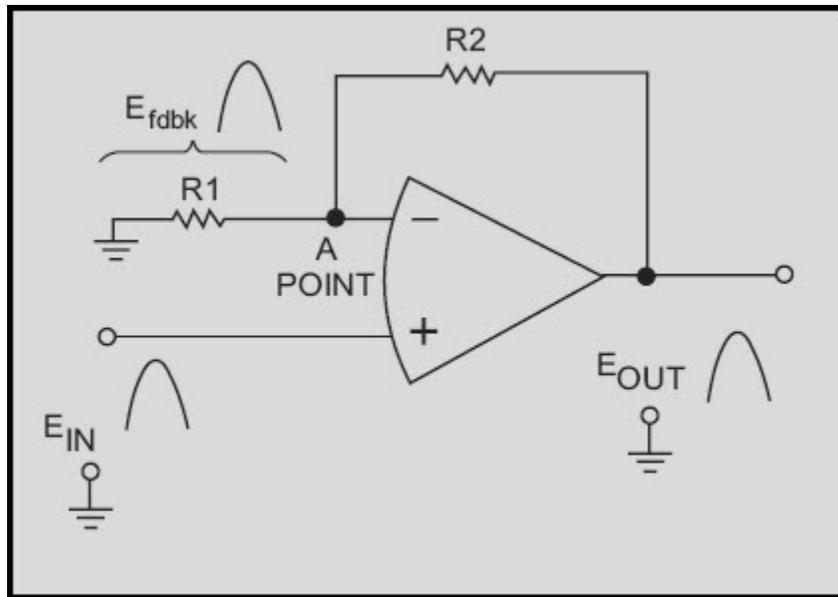

Figure 3-16 Noninverting configuration
Figure 3-16 shows a noninverting configuration using an operational amplifier. The input signal ( $E_{in}$ ) is applied directly to the noninverting (+) input of the operational amplifier. Feedback is provided by coupling part of the output signal ( $E_{out}$ ) back to the inverting (-) input of the operational amplifier. R1 and R2 act as voltage divider that allows only a part of the output signal to be applied as feedback ( $E_{fdbk}$ ).
*Q-26. In a circuit such as that shown in figure 3-16, if  $R_1$  has a value of 50 ohms and  $R_2$  has a value of 250 ohms and the input signal has a value of +10 millivolts, what is the value of the output signal?*